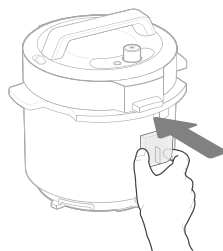

Figure 10.6
3. Replace the condensation collector. **[Figure 10.6]**